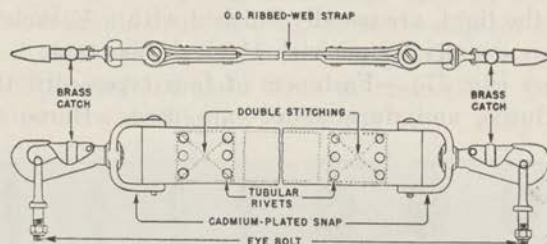

FIGURE 78.—Safety strap.
(1) Seven longitudinal strips of webbing are used in the top of each command car to keep it from sagging between bows.
(2) Webbing tape is sometimes used for binding canvas articles such as tool kit rolls.
(3) Safety straps are made from two thicknesses of special webbing, sewed together and fastened by tubular rivets at the ends near the brass catches (fig. 78).